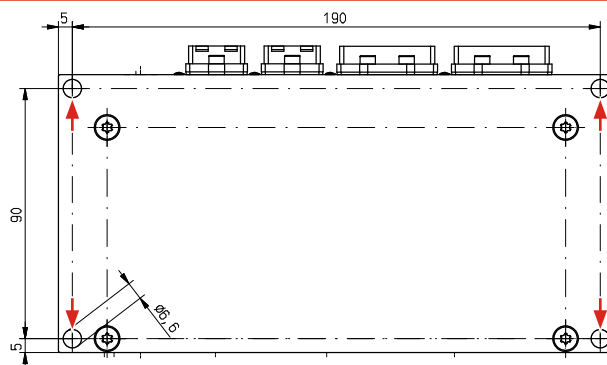

Fig. 6.4: Mounting holes, view from below (dimensions in mm)
1. Mount the PMM according to Fig. 6.4 on page 18 with 4 screws M6.